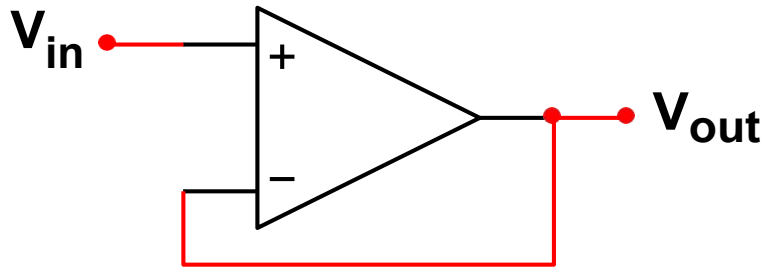

Figure P.5 – Buffer
1. Using **Table 1** and **Figure P.5**, design a **Buffer** that has the following specifications:
- **Closed Loop Voltage Gain (K) = 1**